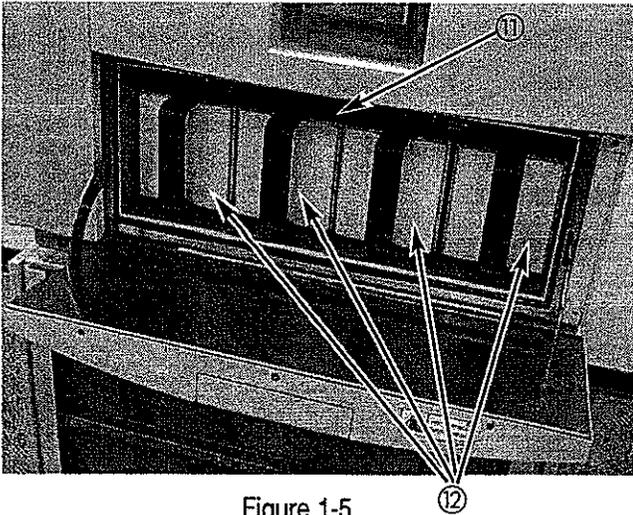

Figure 1-5
**Paraffin Oven** (Figure 1-5)